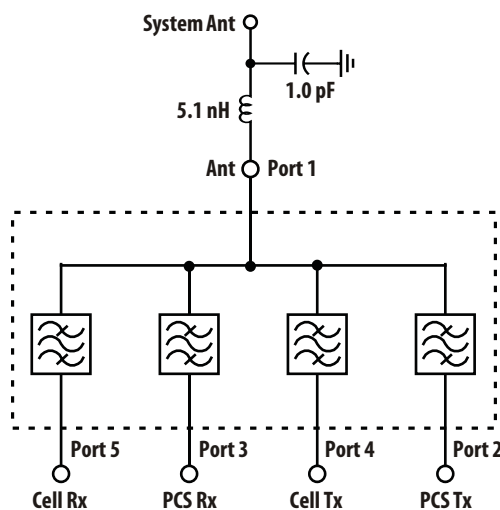

Figure1. Typical Application.
4. Specifications are for circuit shown in Figure 1 and include effect of 5.1 nH inductor and 1.0 pF capacitor added to Port 1 (Ant) via simulation.
A two-element series-L, shunt-C network is used to match the impedance of the Ant port to 50 ohms as shown in Figure 1.
1. Performance shown includes effect of 5.1 nH inductor and 1.0 pF capacitor added to Port 1 (Ant) via simulation as shown in Figure 1.